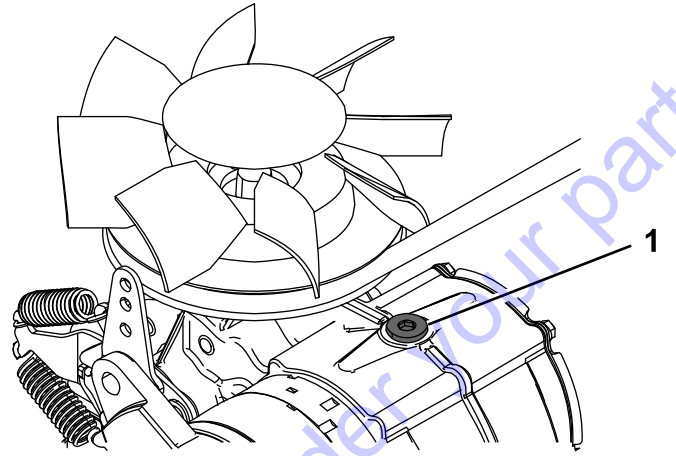

Figure 48
10. Loosen the vent plug in each transmission until loose (Figure 48).